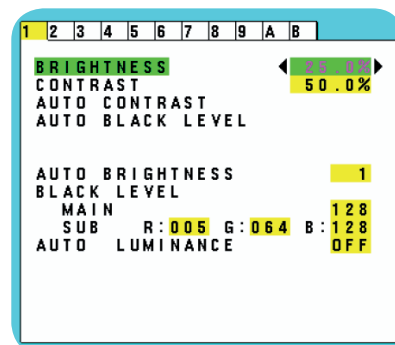

Fig. 23
2. Set the DARK level. This is the lowest level of brightness that the monitor will go reach when the ambient light level is low. Make sure the room is at its darkest when setting this level. Then use the front buttons to move the cursor up to the BRIGHTNESS setting. Choose the desired brightness level (Fig. 23).